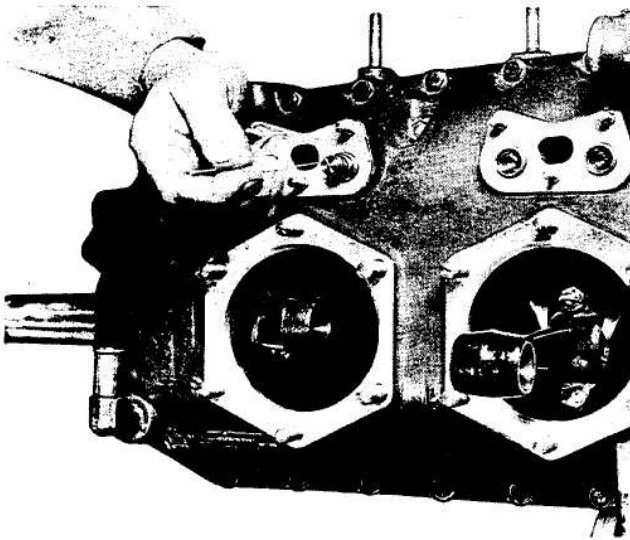

Figure 18. Removal of Hydraulic Unit from Valve Lifter Body.
Remove spark plug cable terminals and plugs of the cylinder affected, and turn the crankshaft to T.D.C. of that cylinder on its compression stroke. Remove hose clamps, and push the pushrod housing rubber connectors back on the housings. Remove palnuts and cylinder base nuts. Withdraw the cylinder and pushrods, catching the piston as it comes free. Inspect pushrods and rocker sockets for wear, and replace serviceable pushrods in their original positions. With a bent wire, hook lifter socket and remove it. (See Figure 18.) Similarly, remove the hydraulic unit. If it tends to stick and the plunger comes out alone, turn the crankshaft until oil pressure forces the cylinder out far enough to be grasped. Test the lifter body for free movement in its guide, and inspect the cam lobe and the follower for wear and scoring.
- b. In the event that an old style lifter, without a retaining ring, is used, the following procedure should be used. While the crankshaft remains in the vertical position, hook each valve lifter socket, and remove it with a bent wire; then remove the hydraulic units with the wire. Keep unit parts in original pairs. The parts are not interchangeable. Store units to indicate cylinder number and position. (See Figure 18.)